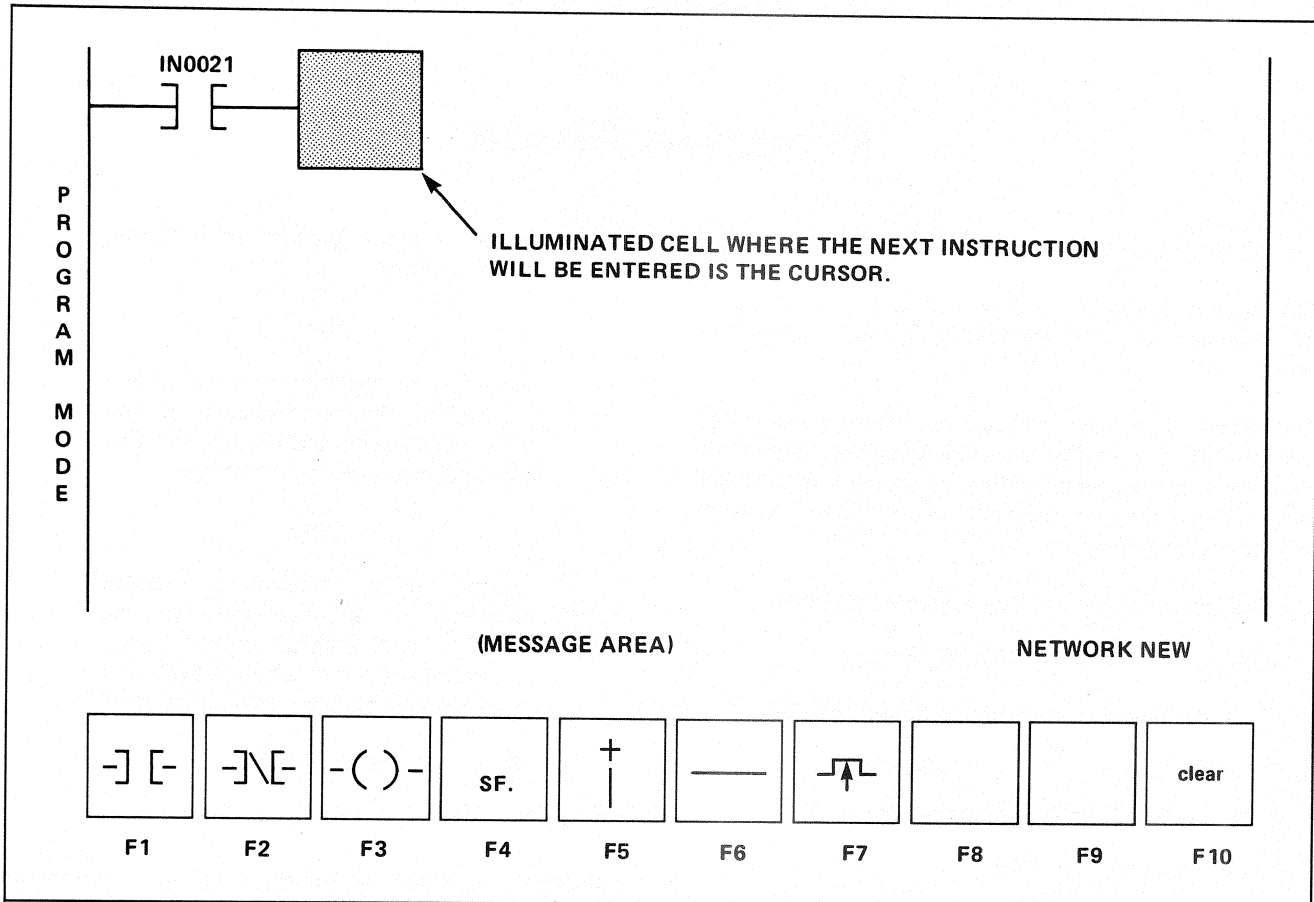

Figure 8-1. Program Mode's Primary Screen
The "primary screen" of the Program mode is shown in Figure 8-1. Observe the Figure and note the following 9 points which explain the entry process in a general way.
4. When 1 or more networks are added, the message NEW NETWORK is displayed on the screen in the area used to display the network number. (See the lower right portion of Figure 8-1. Paragraph 7-2 describes how to assign or reassign network numbers from the Executive Function mode.)
5. Outputs from standard or advanced function blocks can be left unconnected in a network. (That is, they need not run to a coil.) However, any contacts, Transitional (007) elements, horizontal elements, or vertical branch elements **must** be connected to either an input of a standard or advanced function or to a coil. An incomplete contact matrix **cannot** be inserted into memory.